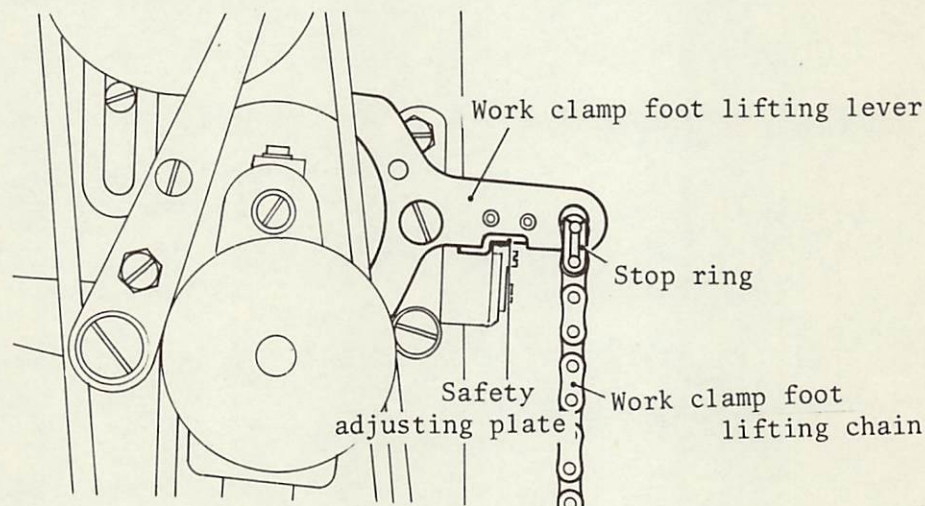

Fig.61
- 2) When installing the work clamp foot lifting chain, insert the work clamp foot lifting stud to the hole at the end of the work clamp foot lifting lever and set it with the stop ring. (Fig.61)
- 4) Be sure to carefully adjust the clearance of 0.3mm(1/64") of left and right and up and down position of the safety adjusting plate(Fig.61). If the clearance of 0.3mm of the horizontal direction becomes larger, the safety adjusting plate may be broken, so be careful.